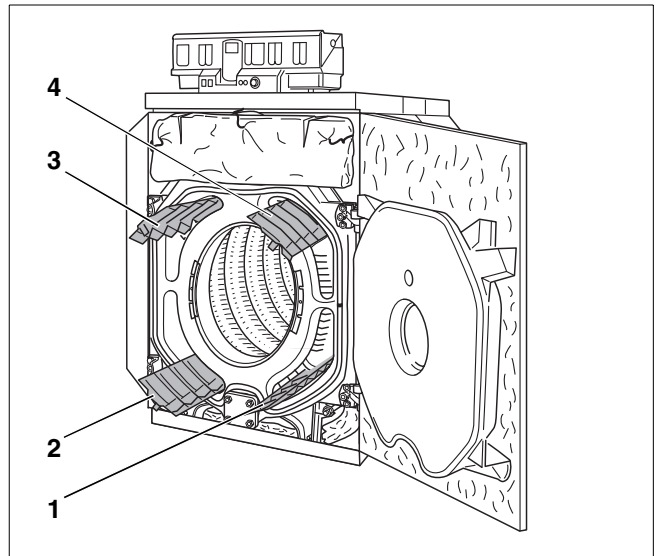

Fig. 66 Removing hot-gas baffles
- Slide the hot-gas baffles forwards and out of the hot-gas passes (Fig. 66, **ref. 1 – 4**).